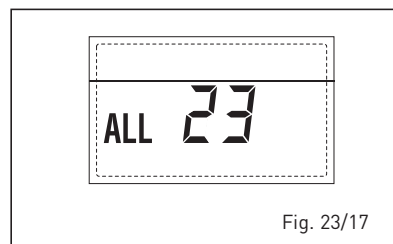

Fig. 23/17
– ANOMALÍA SONDA DEL COLECTOR SOLAR (S1) “ALL 24” (fig. 23/18)